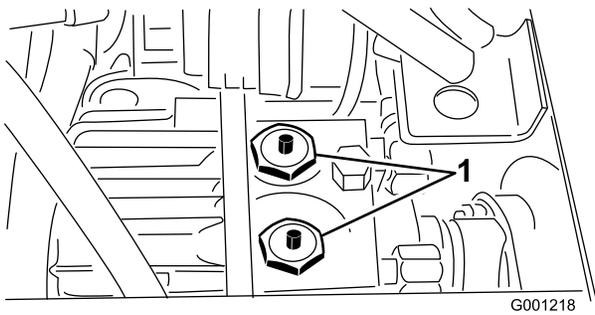

Figure 32
2. Press and hold the pins located in the center of the 2 check valve assemblies in the top of the transmission (Figure 32) while pushing or towing the machine. Figure 32 is shown with seat and seat mounting plate removed.